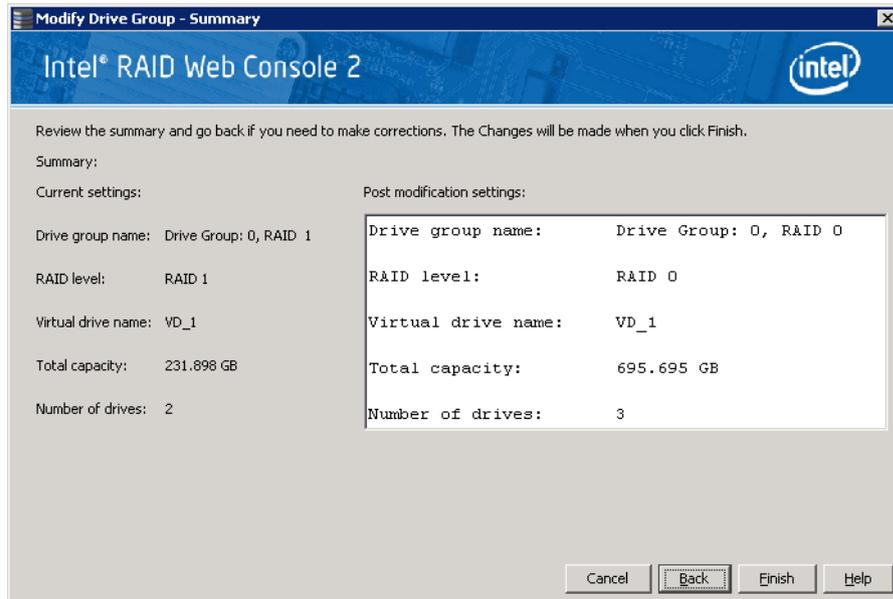

Figure 117. Changing RAID Level
4. When you are finished adding disk drives, click **Next**. The next screen displays, which allows you to review the summary and go back if you need to make corrections as shown in Figure 117.